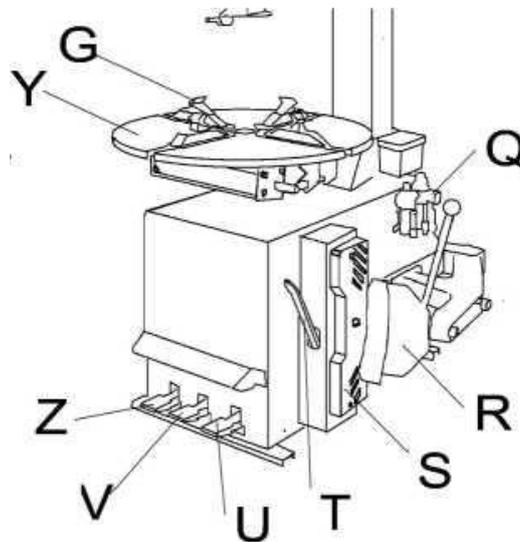
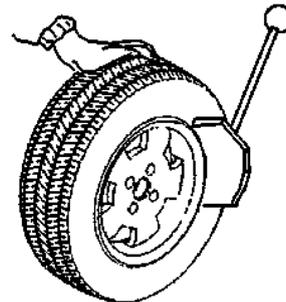

Fig 6
Fig.8
(Refer to Figure 6)
- Put the tire against the Bead Breaker Pad on the right side of the Tire Changer (S) (Fig 6).
- Position the Bead Breaker Blade (R) (Fig 6) against the tire bead at distance of about a ¼" (1 cm) from the rim (Fig.8).